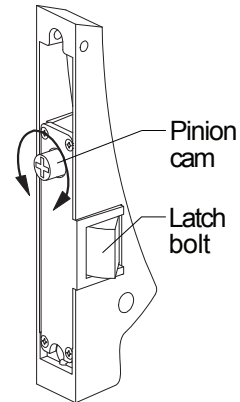

Figure 2
5. If cylinder is used, set pinion cam on back of active housing for hold-back (HB) or night latch (NL) operation (Figure 2).
**Hold-back (HB):** Turning key one complete rotation retracts latch bolt. If key is removed in this position, latch bolt stays retracted. Returning key to original position before removing allows latch bolt to extend.